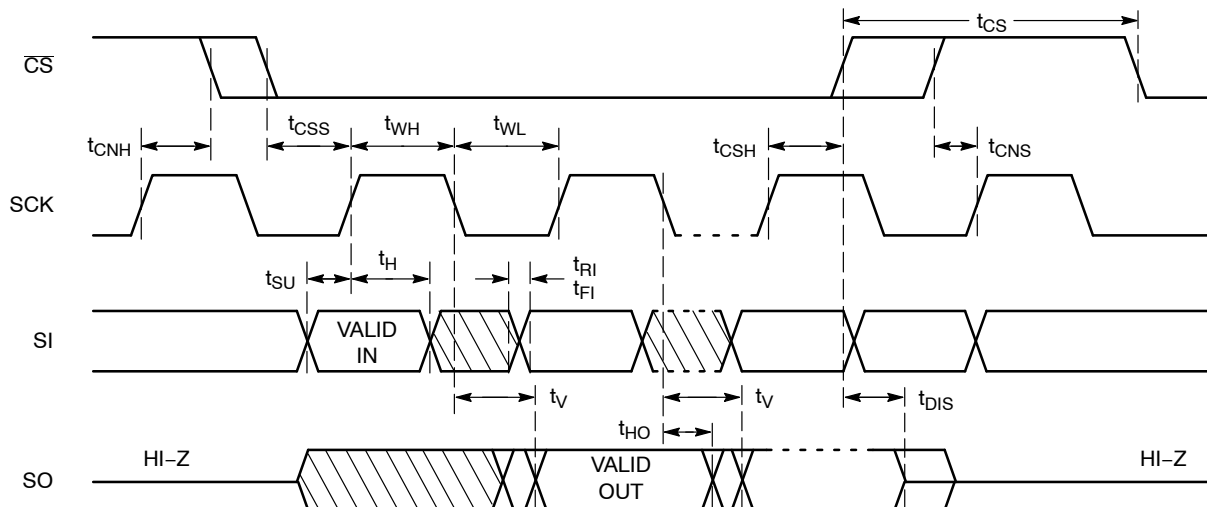

Figure 2. Synchronous Data Timing
8. **All Chip Select (CS) timing parameters are defined relative to the positive clock edge (Figure 2). t_{CSH} timing specification is valid for die revision D and higher. The die revision D is identified by letter “D” or a dedicated marking code on top of the package. For previous product revision (Rev. C) the t_{CSH} is defined relative to the negative clock edge (please refer to data sheet Doc. No. MD-1006 Rev. U)**
After a high to low transition on the $\overline{\text{CS}}$ input pin, the CAT25010/20/40 will accept any one of the six instruction op-codes listed in Table 9 and will ignore all other possible 8-bit combinations. The communication protocol follows the timing from Figure 2.